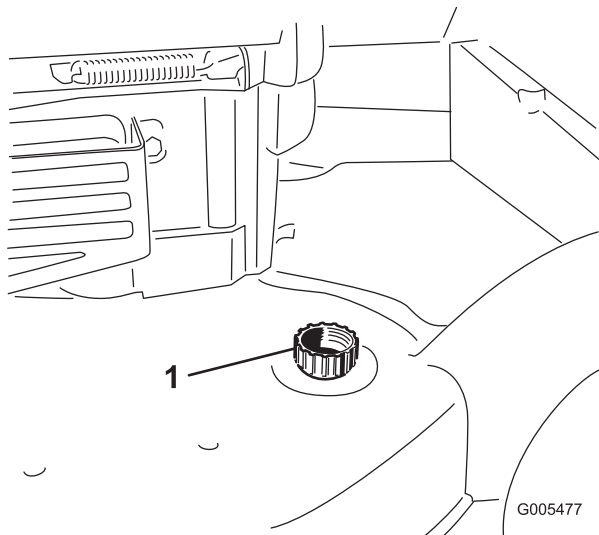

Figure 45
3. Attach a garden hose that is connected to a water supply to the washout port (Figure 45).